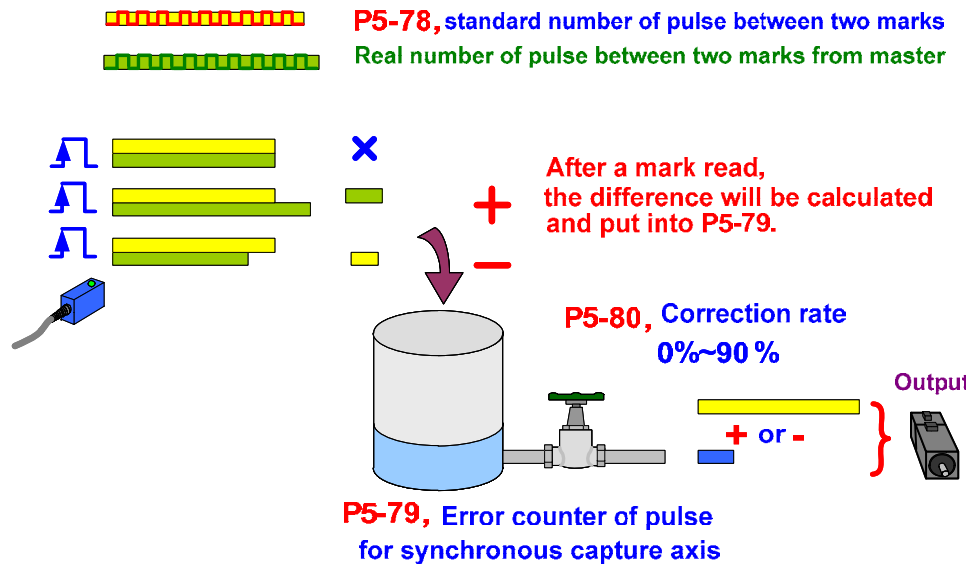

Figure 3.8.6 Operational Theorem of Synchronous Capture Axis
- The pulse number between two marks must be set in P5-78. The setting of P5-78 must be correct, or the system has no basis for comparison. Generally, $P5-78 = P5-84$. If $P5-83 = 1$, then the distance between two marks is the distance the cam curve travels for a cycle. See figure 3.8.6. In every cycle, the actual pulse number output by master axis between two